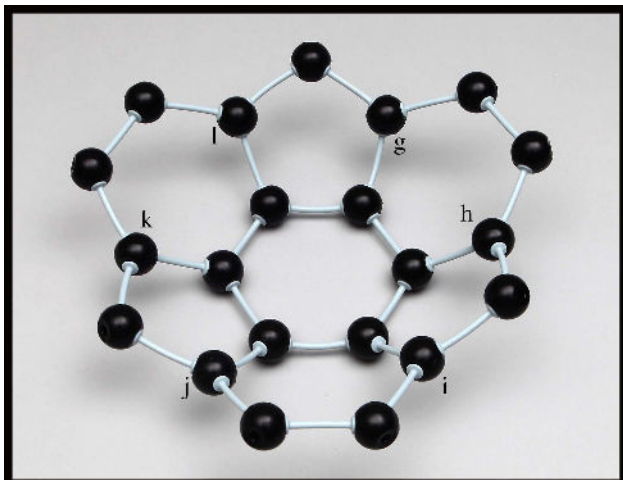

Fig. 4 Model with a slight cup shape.
4. Connect atom g to atom h using two more atoms and three connectors to form a hexagon. Repeat with atoms i and j and then k and l. The model should now have a slight cup shape (Fig. 4).